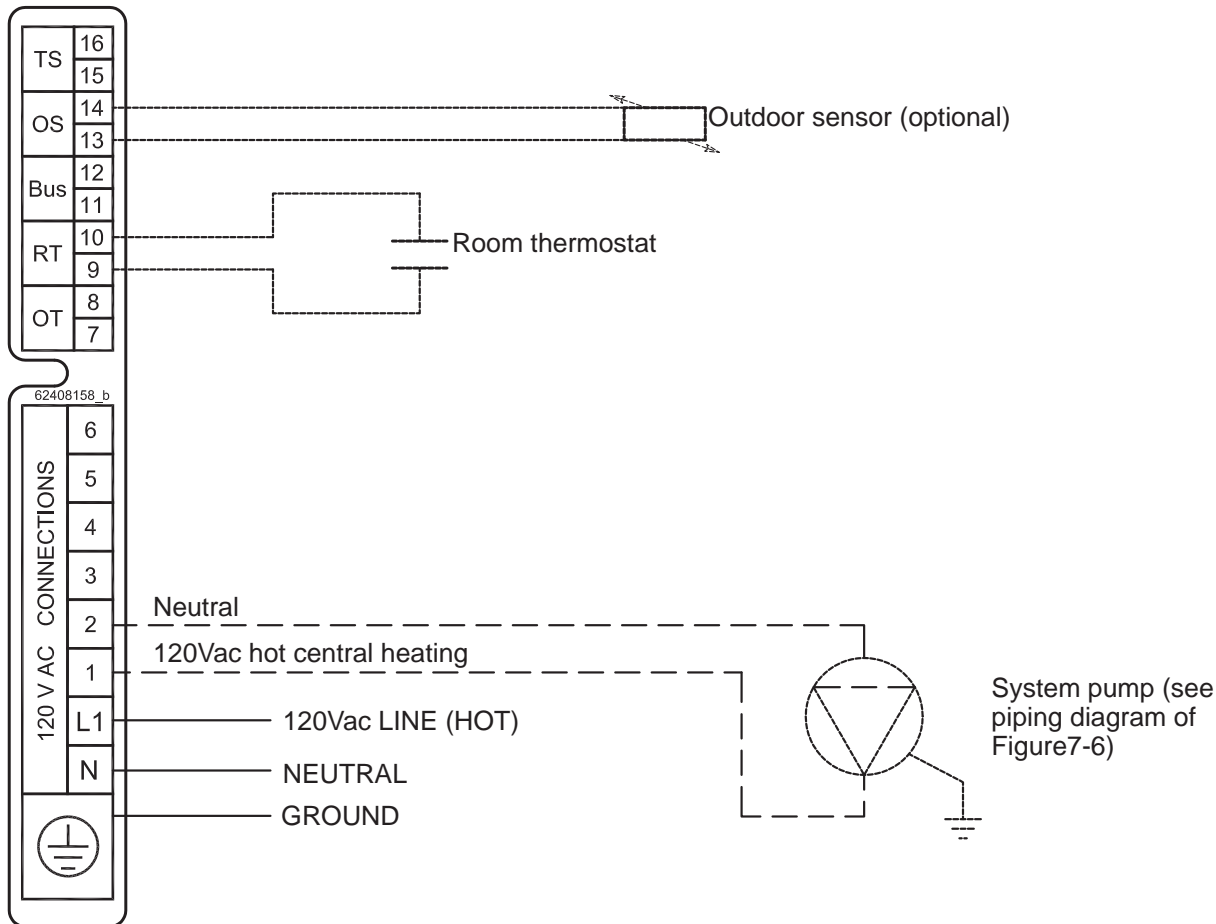

Figure 8-2 Electrical connections for 160-C model (Refer to Figure 7-6)
4. connect the cable leads to the "9" and "10" terminals as shown in Figure 8-2.
3. connect the outdoor temperature sensor cable leads to terminals "13" and "14" as shown in Figure 8-2;